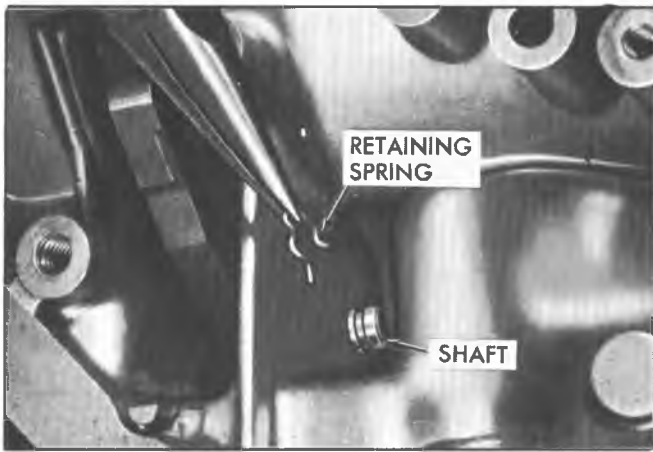

Fig. 21T--Removing Parking Shaft Retaining Spring
7. Remove parking pawl shaft retainer (fig. 21T).